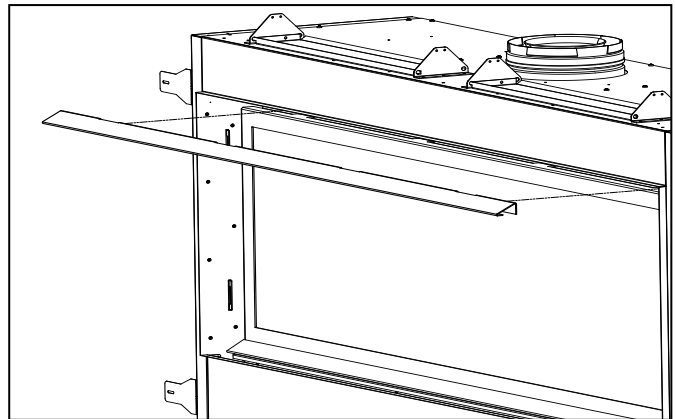

Figure 34: CSS Cover Removal
3. There is a CSS cover on the inner top of the cabinet that must be removed. It is attached using seven (7) #8 T20 screw. Remove these screws and remove the cover (see Figure 34).